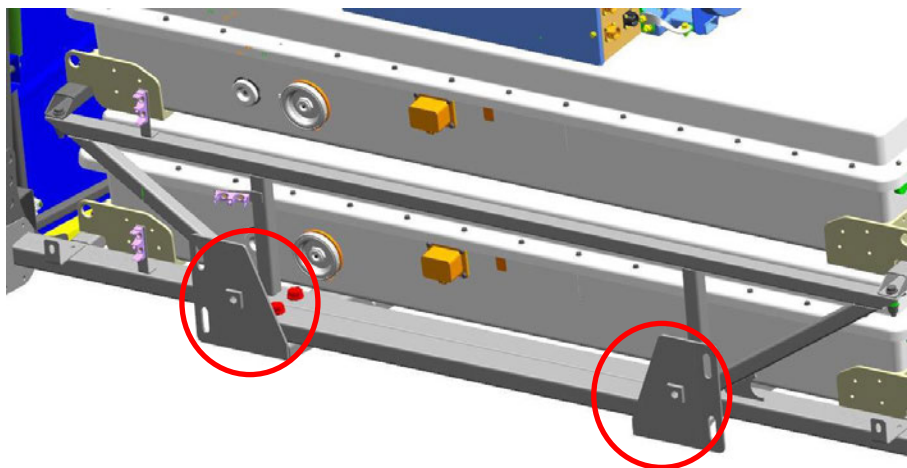

Figure 8: Hardware Between ESS Rack and Rear Chassis End
16. Remove the hardware between the ESS rack and rear chassis end, with 2 sets on each side. Reference Figure 8 below for details: